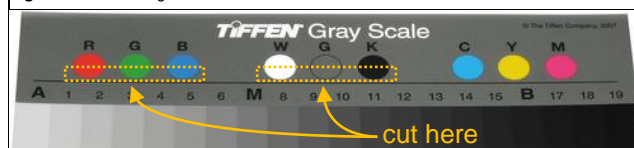
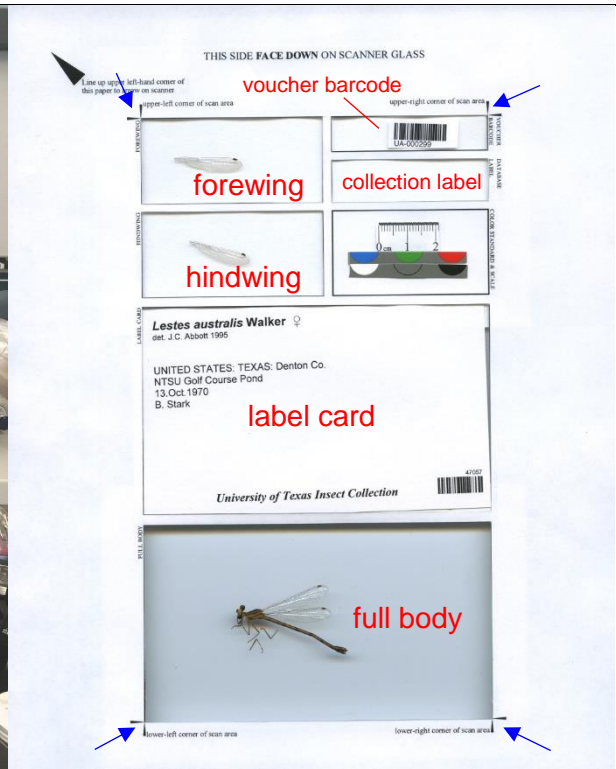

Figure 2. Cutting guide for color & gray standards.
Figure 5. Underside of scanner frame as seen through the scanner glass. Blue arrows indicate corners of scanning area.
3. Print the microscale, again selecting *Actual size* in the print window. Cut a 2-cm section of a ruler from halfway down the page (the rulers that include hashing above them) so that the section looks like that in Fig. 5.
4. Acquire the color and gray standards (Tiffen Q-13 Color Separation Guide, small, available at B&H Foto & Electronics, item # TICSGS). Cut the RGB and WGK circles of the Tiffen Gray Scale card as indicated in Fig. 2 to look like those in Fig. 5.
5. Affix the microscale and standards to the section of the frame labeled "Place color standard & scale here", arranging them to look like Fig. 5.
9. Place the now-prepared scanner frame on the scanner glass so that the "face down" side is touching the glass, and with the arrow on the corner of the frame pointing toward the corresponding arrow on the scanner (Fig. 5). Place the foam board over the full body window so that the sides of its inner border are flush with the sides of the window; this will prevent the full body from being crushed during scanning. The frame and scanner are now ready for digitizing specimens.
4. Check that all the items within the frame are positioned correctly; if not, rearrange the items on the scanner glass and repeat the preview process until the image is satisfactory. Using the selecting tool of the Preview window, select the scan area demarcated within the tics printed on the scanning frame (Figs. 5 & 13, blue arrow & line). Adjust the sides of the resulting dashed box if necessary so that its area only includes the scan area. Click *Scan*. The scanning process will take approximately 5–6 min.